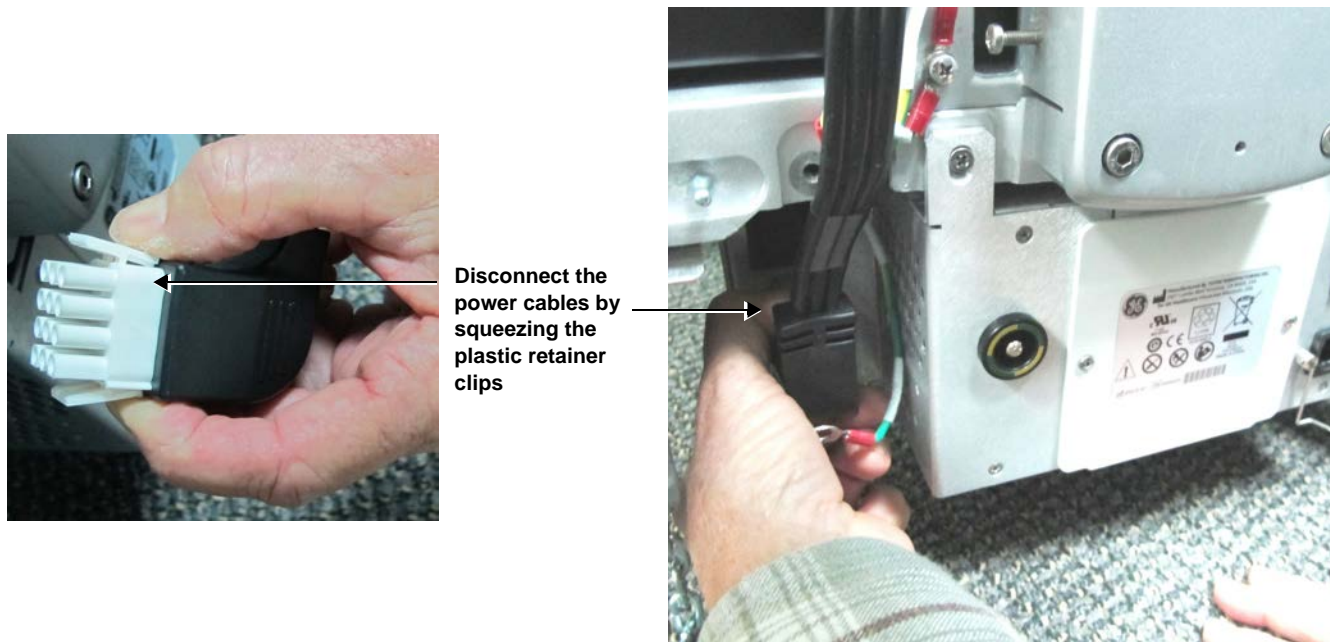

Figure 8-169 Plastic Securing Clips on Power Cables
- 3.) Unplug the power cable (seen in Figure 8-169) from the AC Box by squeezing the plastic retainer clips inwards as shown in on the left and pull the connector outwards.
- 4.) Unplug the Peripherals power cable (not visible in Figure 8-169).